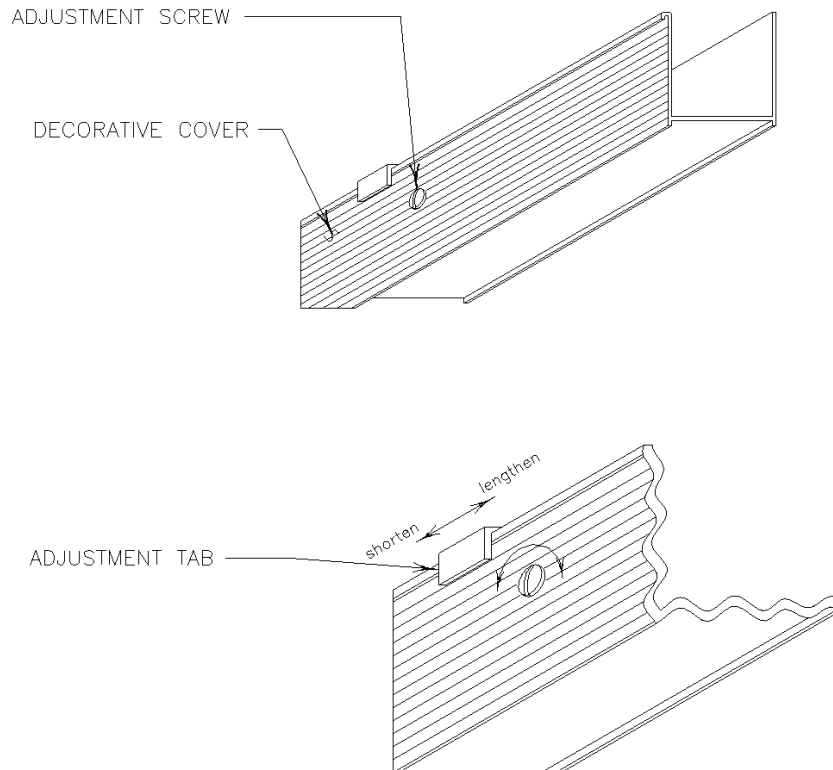

FIGURE 2 / GRAPHIC 25-23-03-991-002
- C. Adjustments after installation (See FIGURE 2/GRAPHIC 25-23-03-991-002)
- (1) The length of the shade can be adjusted up to three inches. Turn the screw counterclockwise to loosen the up/down adjustment tab.
- (2) Move the adjustment tab to the right to lengthen the shade, and to the left to shorten the shade.
- (3) When the proper adjustment is done, hold the adjustment tab in place while turning the screw clockwise to tighten.